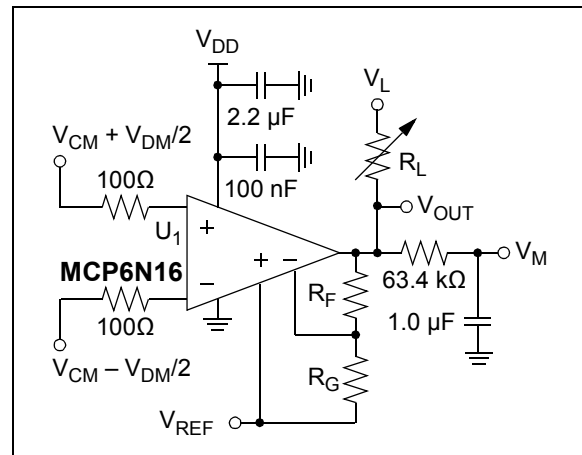

FIGURE 1-8: Simple Test Circuit for Differential Mode.
- 2:** These parameters were characterized using the circuit in Figure 1-8. In Figures 2-75 and 2-76, there is an IMD tone at DC, a residual tone at 100 Hz and other IMD tones and clock tones.
Figure 1-8 is a simple circuit that can test the INA's differential gain error, nonlinearity and input voltage range (g_E , INL_{DM} , V_{DML} and V_{DMH} ; see Section 1.5.3 "Differential Gain Error and Nonlinearity"). R_F and R_G are 0.01% for accurate gain error measurements.
The circuit in Figure 1-8 can test the input's dynamic behavior (i.e., IMD, t_{STR} , t_{STL} , t_{IRC} , t_{IRD} and t_{OR}); measure the output at V_{OUT} , instead of at V_M .